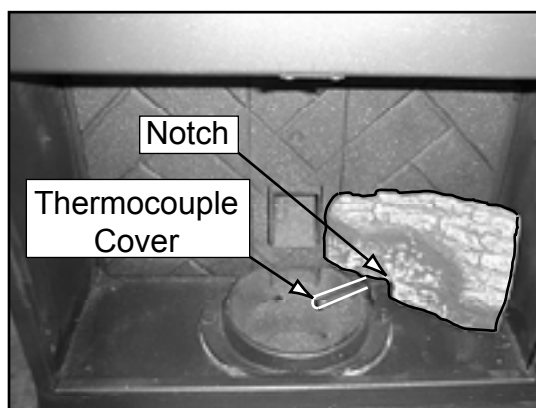

Figure 19.1
1. Place the right rear log as shown. There is a notch in the bottom of the log for clearance for the thermocouple and thermocouple cover (ceramic protection tube). **Figure 19.1.**